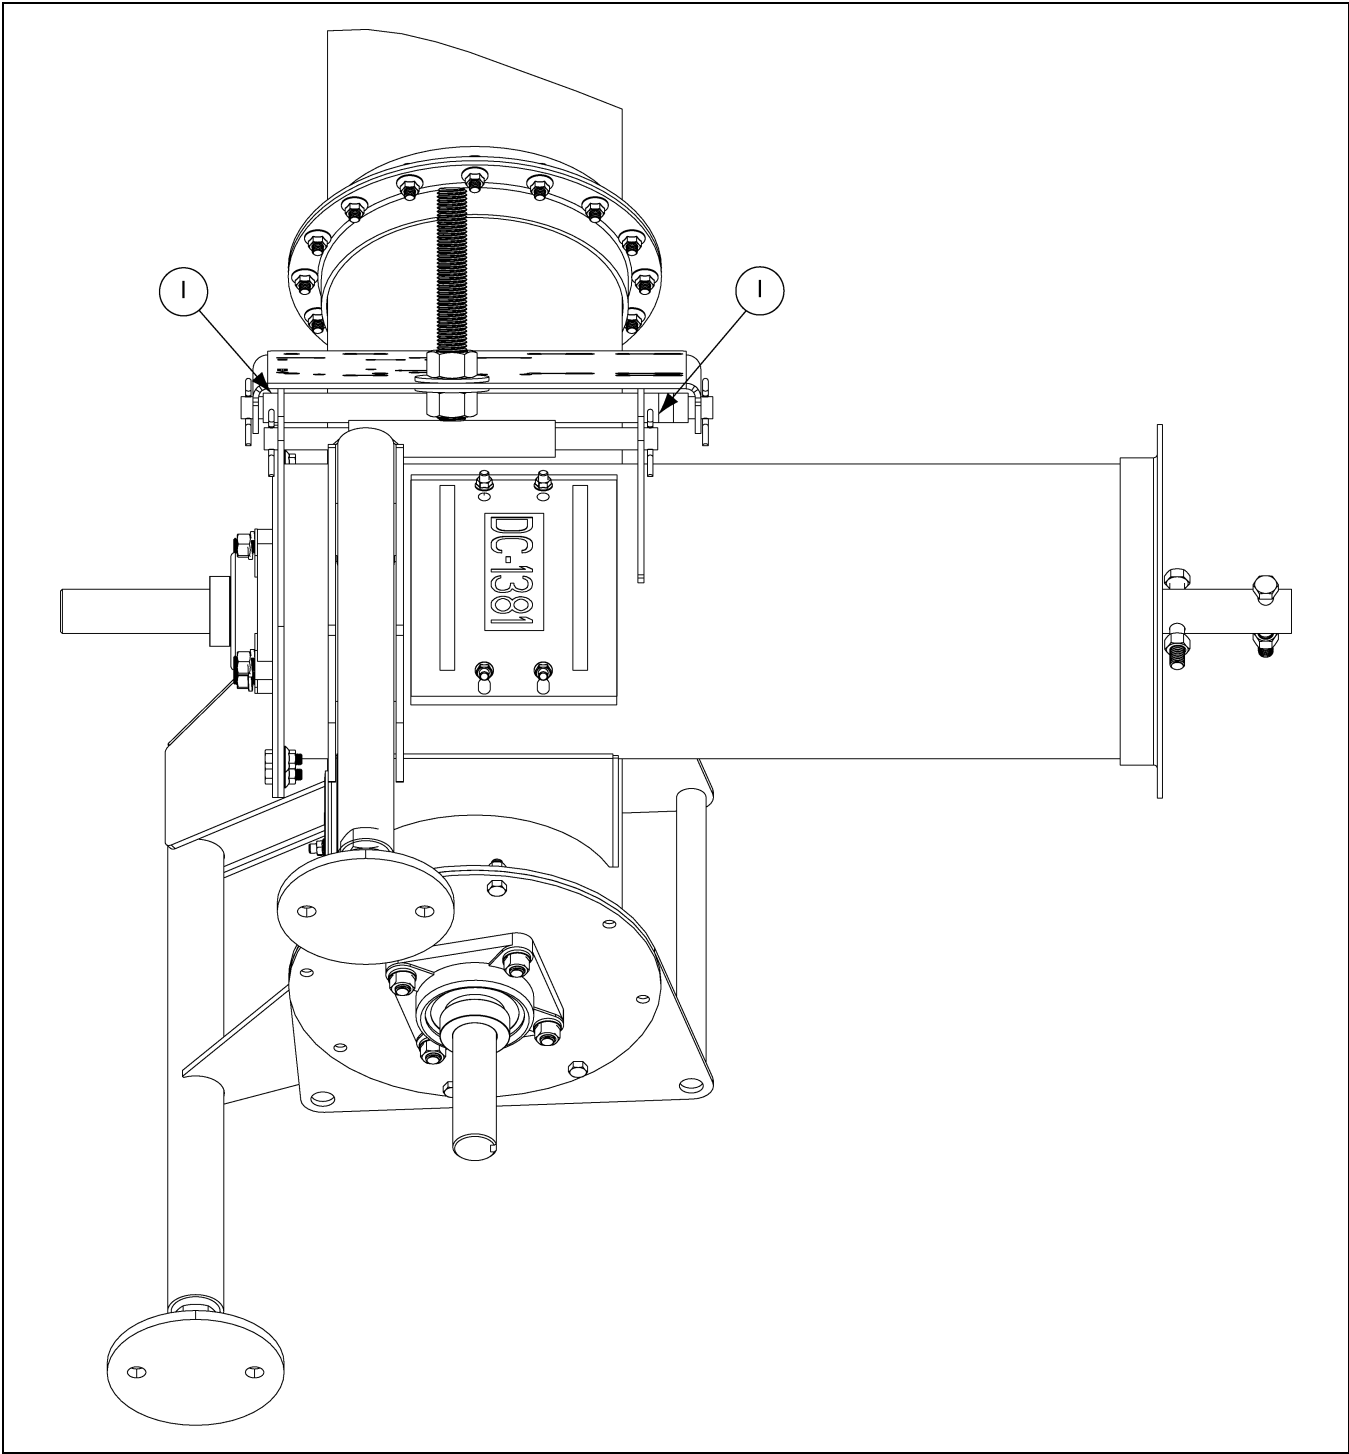
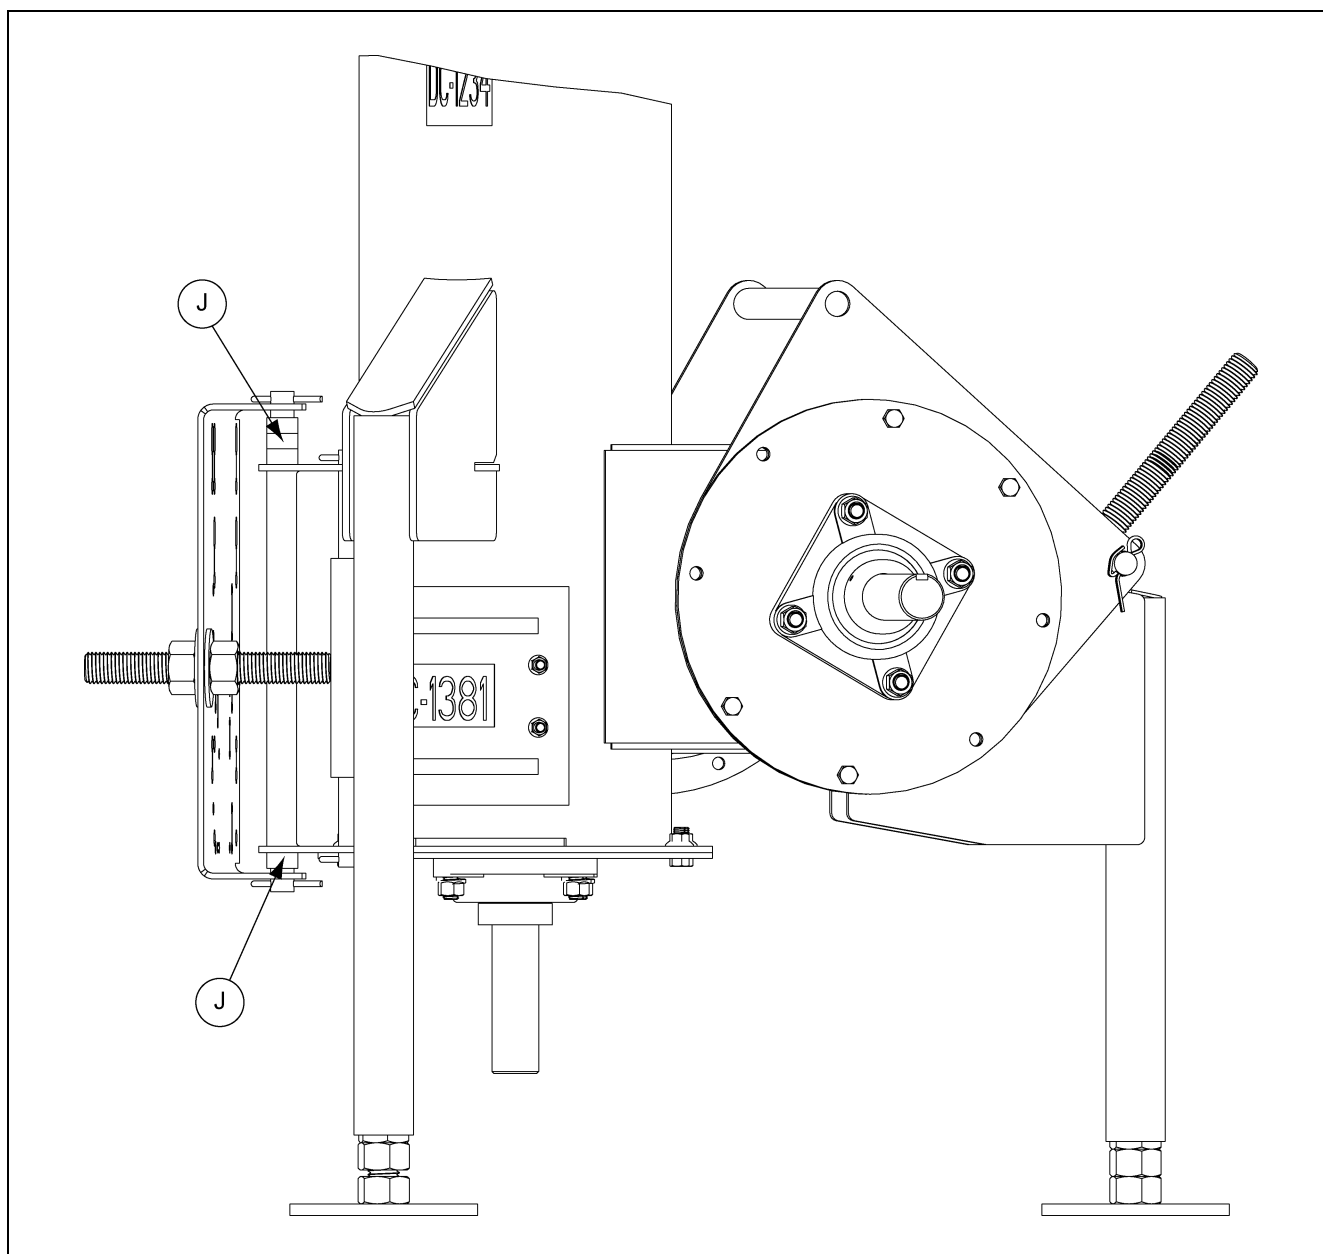

Figure 3J
Figure 3K
D. When the *pivot rod* begins to extend through the pivot tube, install the *spacers* BETWEEN the back plate and the inner face of the *motor mount plate*. (See *Figure 3J below* and *Figure 3K on Page 23.*)